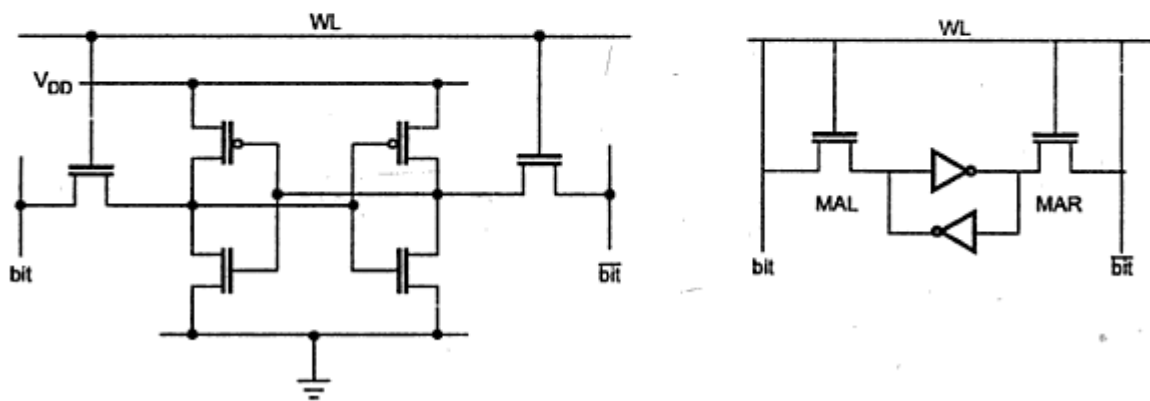

Fig. 9.15 6T SRAM cell
- The basic SRAM cell uses six transistors in the configuration shown in the Fig. 9.15.
- All are CMOS transistors. Data is stored in the latch made by the pair of inverters and it is accessed by the NMOS transistors on the left and right of the cell. Access to the cell is enabled by the word line (WL in Fig. 9.15).